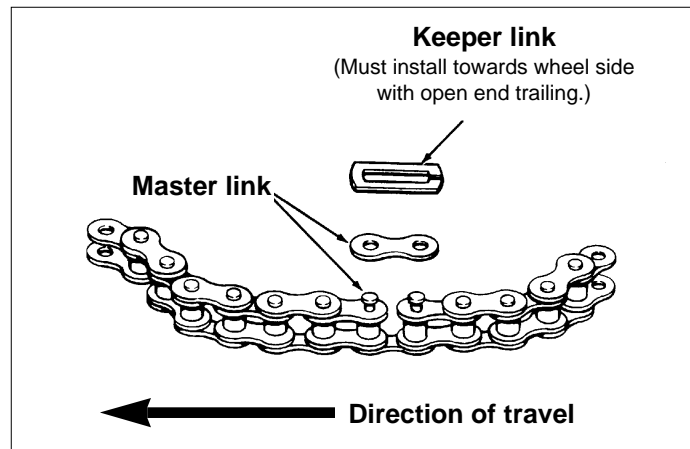

Figure 25. Roller Chain Master Link
6. Install new chain and keeper link as shown in Figure 25.